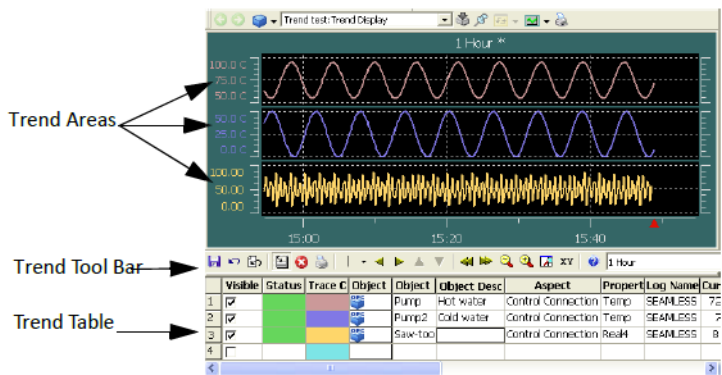

Figure 41. Trend Display Main View
- The Main View, which is the standard layout (Figure 41).